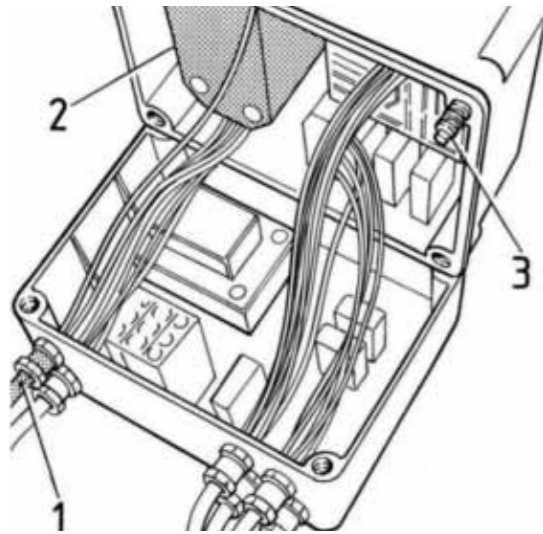

Figure 6
- Open the cover of the control pushbutton panel, disconnect the phase wires L1 and L3 from the terminals and invert their position. Close the push-button panel cover, tightening the screws (3 - fig.6).